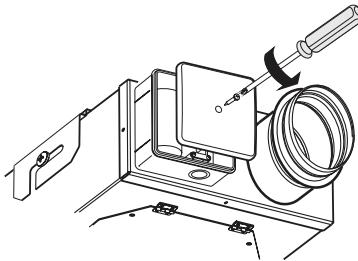

Figure 15
1. Remove the cover from the terminal box. (Figure 15)